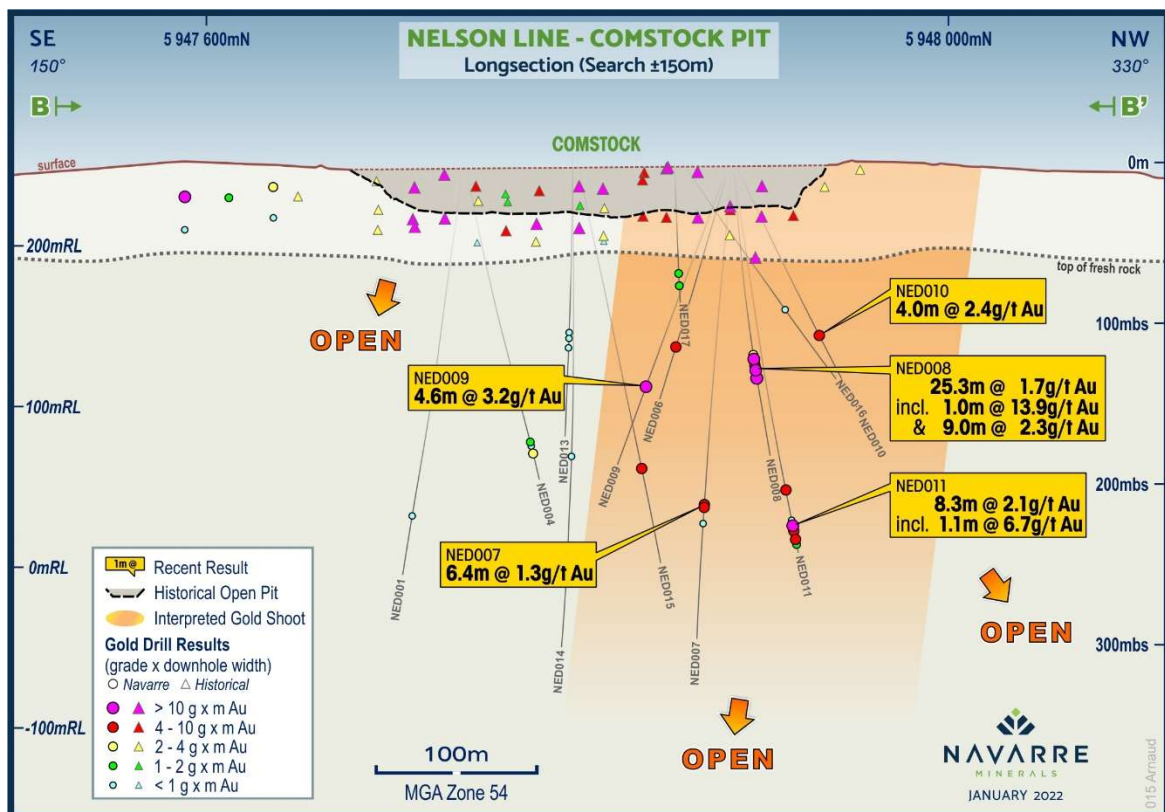

Figure 5: Longitudinal projection of the Comstock Shear showing significant drill intercepts (refer to Figure 4 for location).
The drilling also highlights the development of a higher-grade, steeply south plunging gold shoot around the intersection of the bedding parallel Comstock with the discordant Walkers shear zones (Figure 5). This mineralisation has similar geometry to historically mined shoots within the St Arnaud Goldfield and remains open at depth and along strike to the north.
- **Walkers Shear** – an irregular 0.5 to 5-metre-wide quartz reef and stockworks structure containing zones of strong sulphide mineralisation in the form of arsenopyrite ± galena ± sphalerite and rare visible gold. This shear has been confirmed by drilling over a 250 metre strike extent and to 200 metres depth. This structure trends slightly oblique to the strike of the Comstock Shear and is interpreted to intersect the Comstock Shear in the northern end of the old open pit where higher-grade intercepts define a steeply plunging gold shoot (Figure 5). This gold shoot remains open to the north and at depth (see Figure 5).